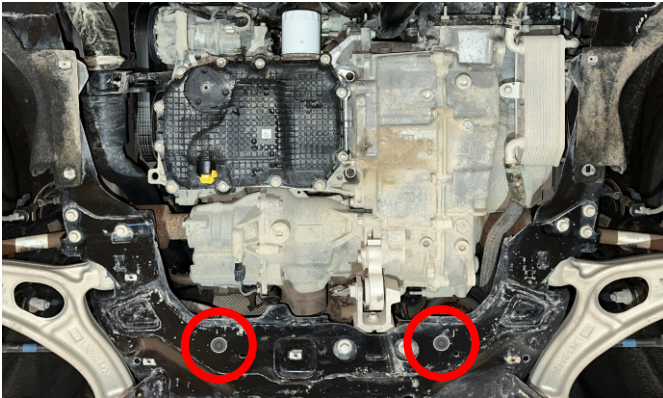

Fig. 1
1. Loosely insert factory bolts into factory threaded holes. (Fig. 1)